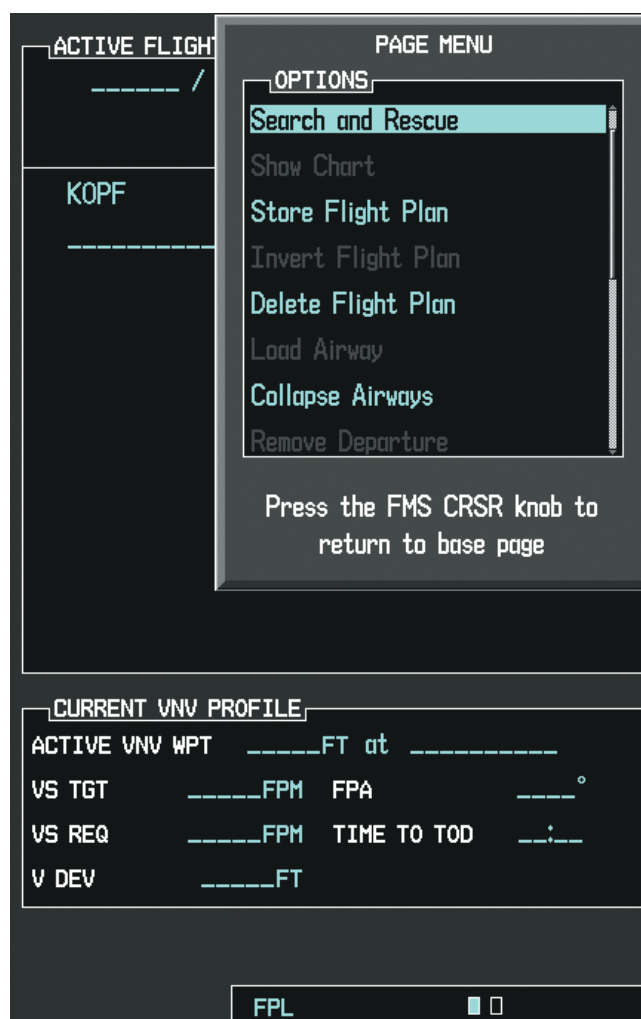

Figure 2 Search and Rescue PAGE MENU Options
- 2) Press the **MENU** Key to display the PAGE MENU Options (Figure 2).